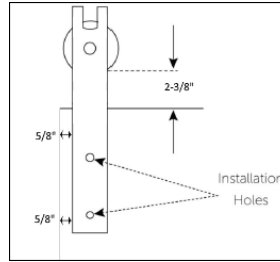

Figure 3
3. Adjust the placement of the hanger for a 2-3/8" gap between the top of the door and the bottom of the wheel. Ensure the side of the hanger at the top of the door is resting 5/8" from the edge of the door so that the edge of the wheel lines up with the edge of the door (Figure 3 & 4).
4. Mark the center of each installation hole with a pencil (Figure 3 & 4).
4. (Figure 3).